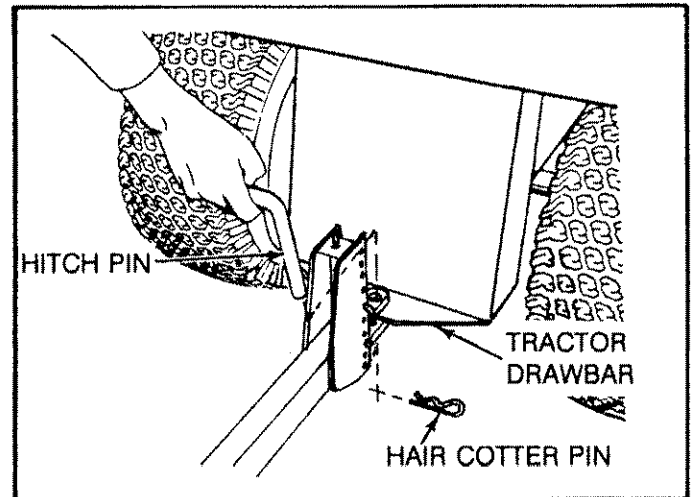

FIG. 3
- Place mower behind tractor and back tractor up to it for attaching. (See Fig. 3)